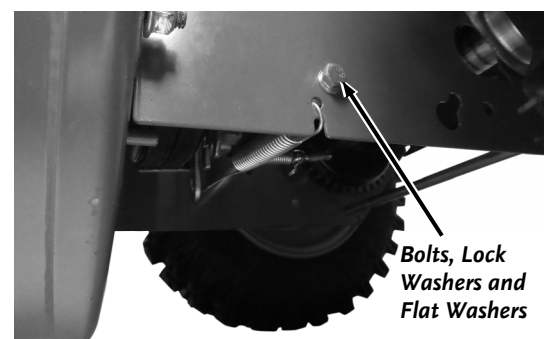

Figure 58
- Remove the Bolts, Lock Washers and Flat Washers that secures the front Strut to the Frame (**Figure 58**). The Friction Disc Bracket will now move out of the way enough for Belt removal.